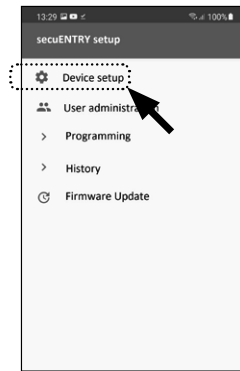

Fig. 7
④ In the following menu, tap on "*Device Setup*" (Fig. 7). From here you can add and setup *secuENTRY* units to the app.